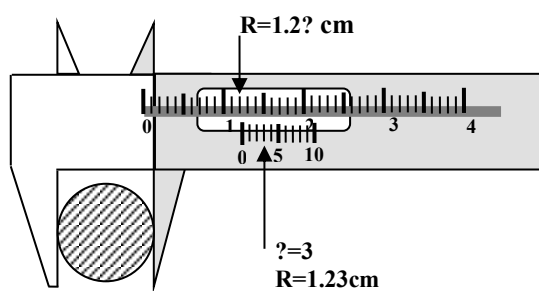

Figure 2. Vernier Calipers.
**Vernier Calipers** (Figure 2) are instruments designed to extend the precision of a simple ruler by one decimal point. When you place an object between the jaws, you may obtain an accurate value by combining readings from the main ruler and the scale on the frame attached to the movable jaw. First, you record the value from the main ruler where the zero line on the frame points to. Then, you look for the lines on the frame and the main ruler that looks like the same line continuing in both scales. The number corresponding to this line on the frame gives you the next digit in the measurement. In Figure 2, the measurement is read as 1.23 cm. The precision of a vernier calipers is the smallest of its divisions, 0.1 mm in this case.